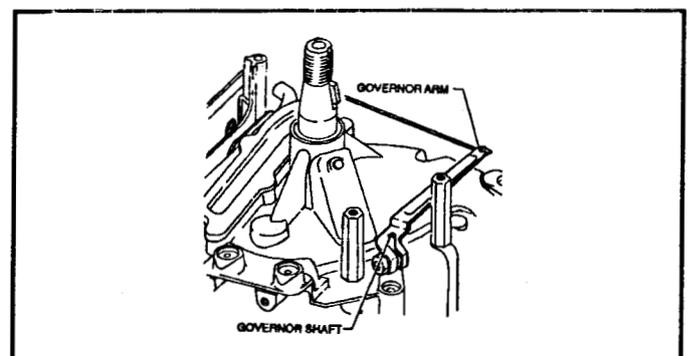

Figure 91
1. Install the link rod with the Z bend from the bottom of the governor lever. See Figure 91.